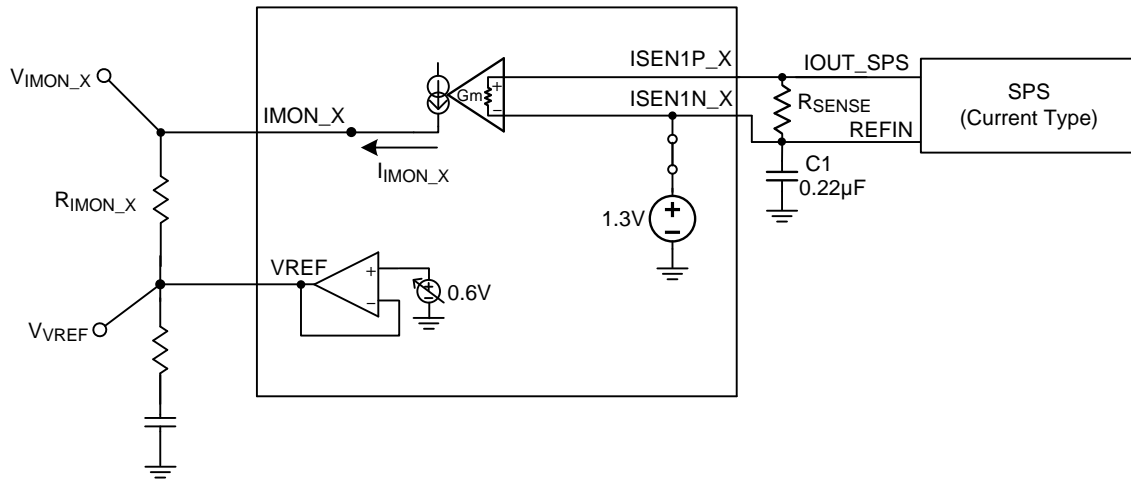

Figure 24. SPS Current Sense
0.22µF to 1µF is suggested to be connected between ISEN1N to GND. Figure 24 shows the implementation of SPS current sensing report. The VIMON_X and current reporting from SPS can be calculated as :